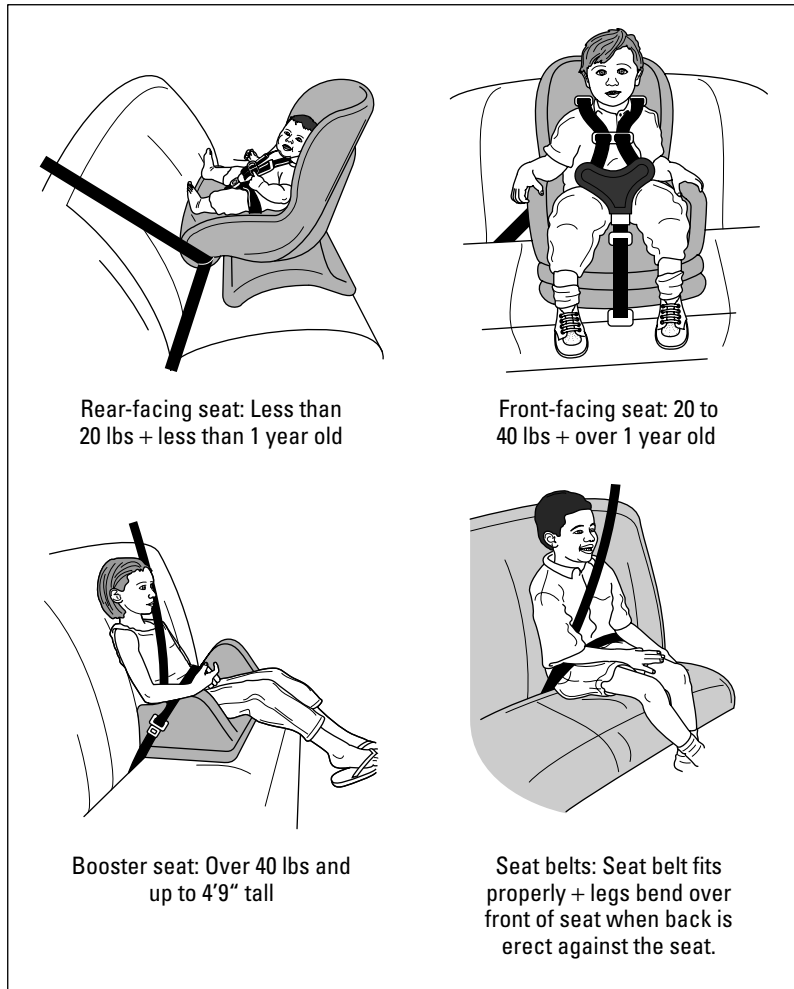

Figure 19-4: Seating children safely.
Even with all the publicity, the sad fact is that many parents remain ignorant about the proper way to seat their children in a vehicle, and research has found that thousands of child safety seats are improperly installed. *No single seat can carry a child safely from infancy through childhood* and children need special seating much longer than many would assume. Figure 19-4 shows you the four steps and types of seats that are necessary to seat a child safely at different stages of growth.
Here are NHTSA's recommendations for insuring that your children will have the best chance to travel safely on the road at each stage of their growth and development (refer to Figure 19-4):
- ✔ **Children are ready to get out of a booster seat and just use the vehicle's seat belt when the following conditions are present:** Both the lower and upper belts fit properly (see the preceding booster seats bullet) and their legs are able to bend at the knees against the edge of the seat when they sit up straight against the seat back without slouching. Figure 19-4 shows you what that placement should look like.